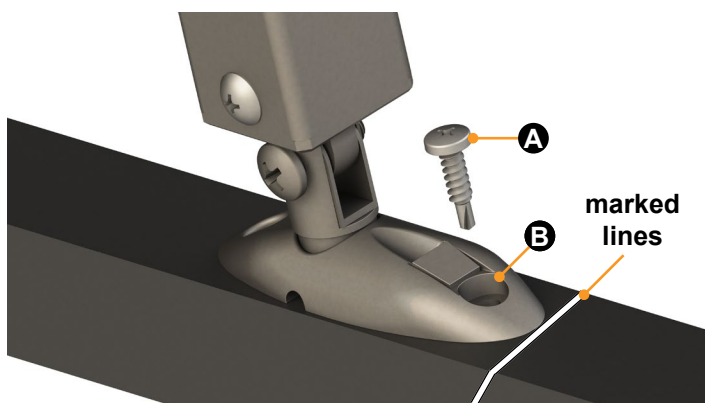

Fig.18
12. Position the locking plate (Fig.18) where previously located in step 6.C.